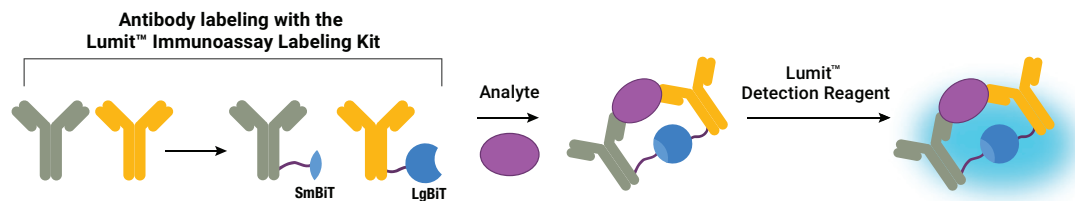

Figure 1. Schematic of Lumit[®] Immunoassay.
The Lumit[®] Immunoassay is based on NanoLuc[®] Binary Technology (NanoBiT). NanoBiT is a structural complementation system designed for biomolecular interaction studies (1). The NanoBiT[®] system is composed of two subunits, Large BiT (LgBiT; 18kDa) and Small BiT (SmBiT; 11 amino acid peptide), that have been optimized for stability and minimal self-association due to weak affinity (190µM). In Lumit[®] Immunoassays, antibodies are chemically labeled with SmBiT and LgBiT subunits. Upon binding of the labeled antibodies to an analyte, the subunits come into close proximity, reassemble into a functional luciferase enzyme and generate a luminescent signal in the presence of substrate (Figure 1). Other immunoassay formats, including competition and indirect immunoassays, can also be developed using this technology (2).